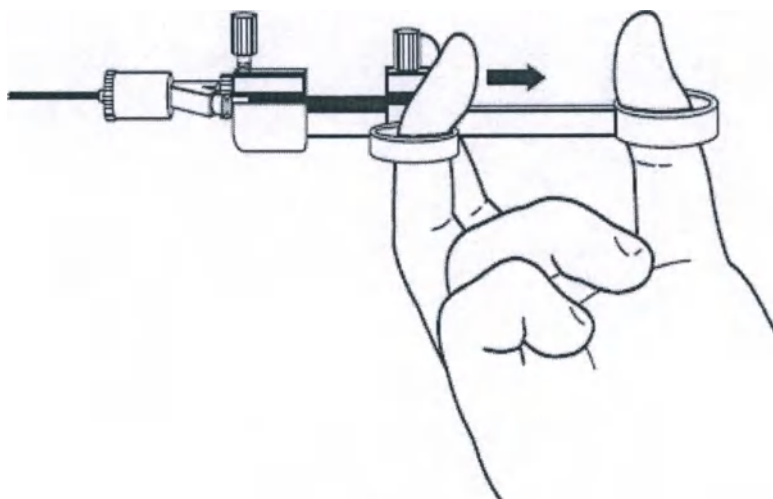

Fig. 3
2. To deflect the wire guide and catheter, insert thumb and fingers in proper rings and slowly but firmly pull. (Figure 3)